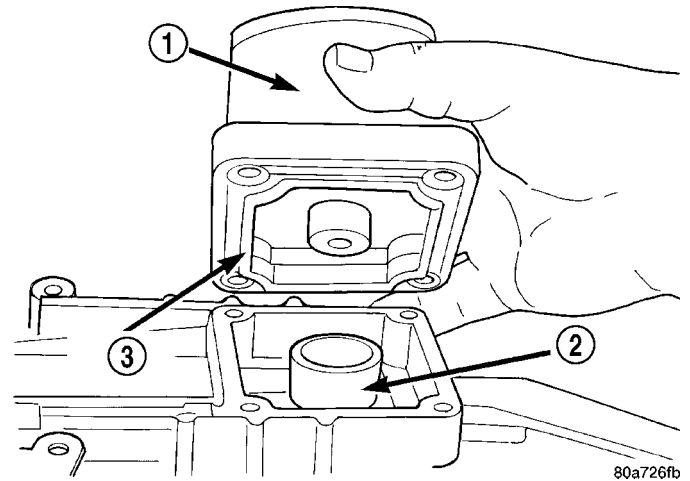

Fig. 5 SHIFT TOWER
(5) Remove shift tower bolts and remove tower and lever assembly (Fig. 5).